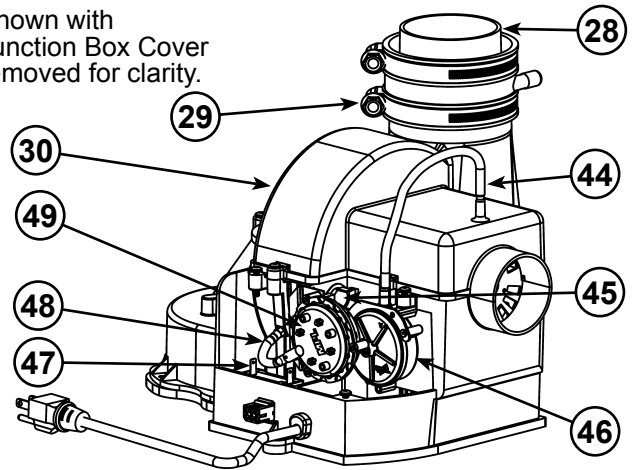

Figure 56.
- 28 ****Rubber Coupling (see Figure 5) (see also **Figure 56**)
- 29 Gear Clamp (see Figure 5) (see also **Figure 56**)
- 30 ***Blower with Power Cord (see Figure 5) (see also **Figure 56**)
- 44 Air Tubing (Intake) (see Figure 5) (see also **Figure 56**)
- 45 Blower High Limit Switch (see Figure 5) (see Figure 56)
- 46 Intake Air Pressure Switch (NC) (inside box) (see Figure 5) (see also **Figure 56**)
- 47 Capacitor (see Figure 5) (see also **Figure 56**)
- 48 Air Tubing (Exhaust) (see Figure 5) (see also **Figure 56**)
- 49 Exhaust Air Pressure Switch (NO) (inside box) (see Figure 5) (see also **Figure 56**)